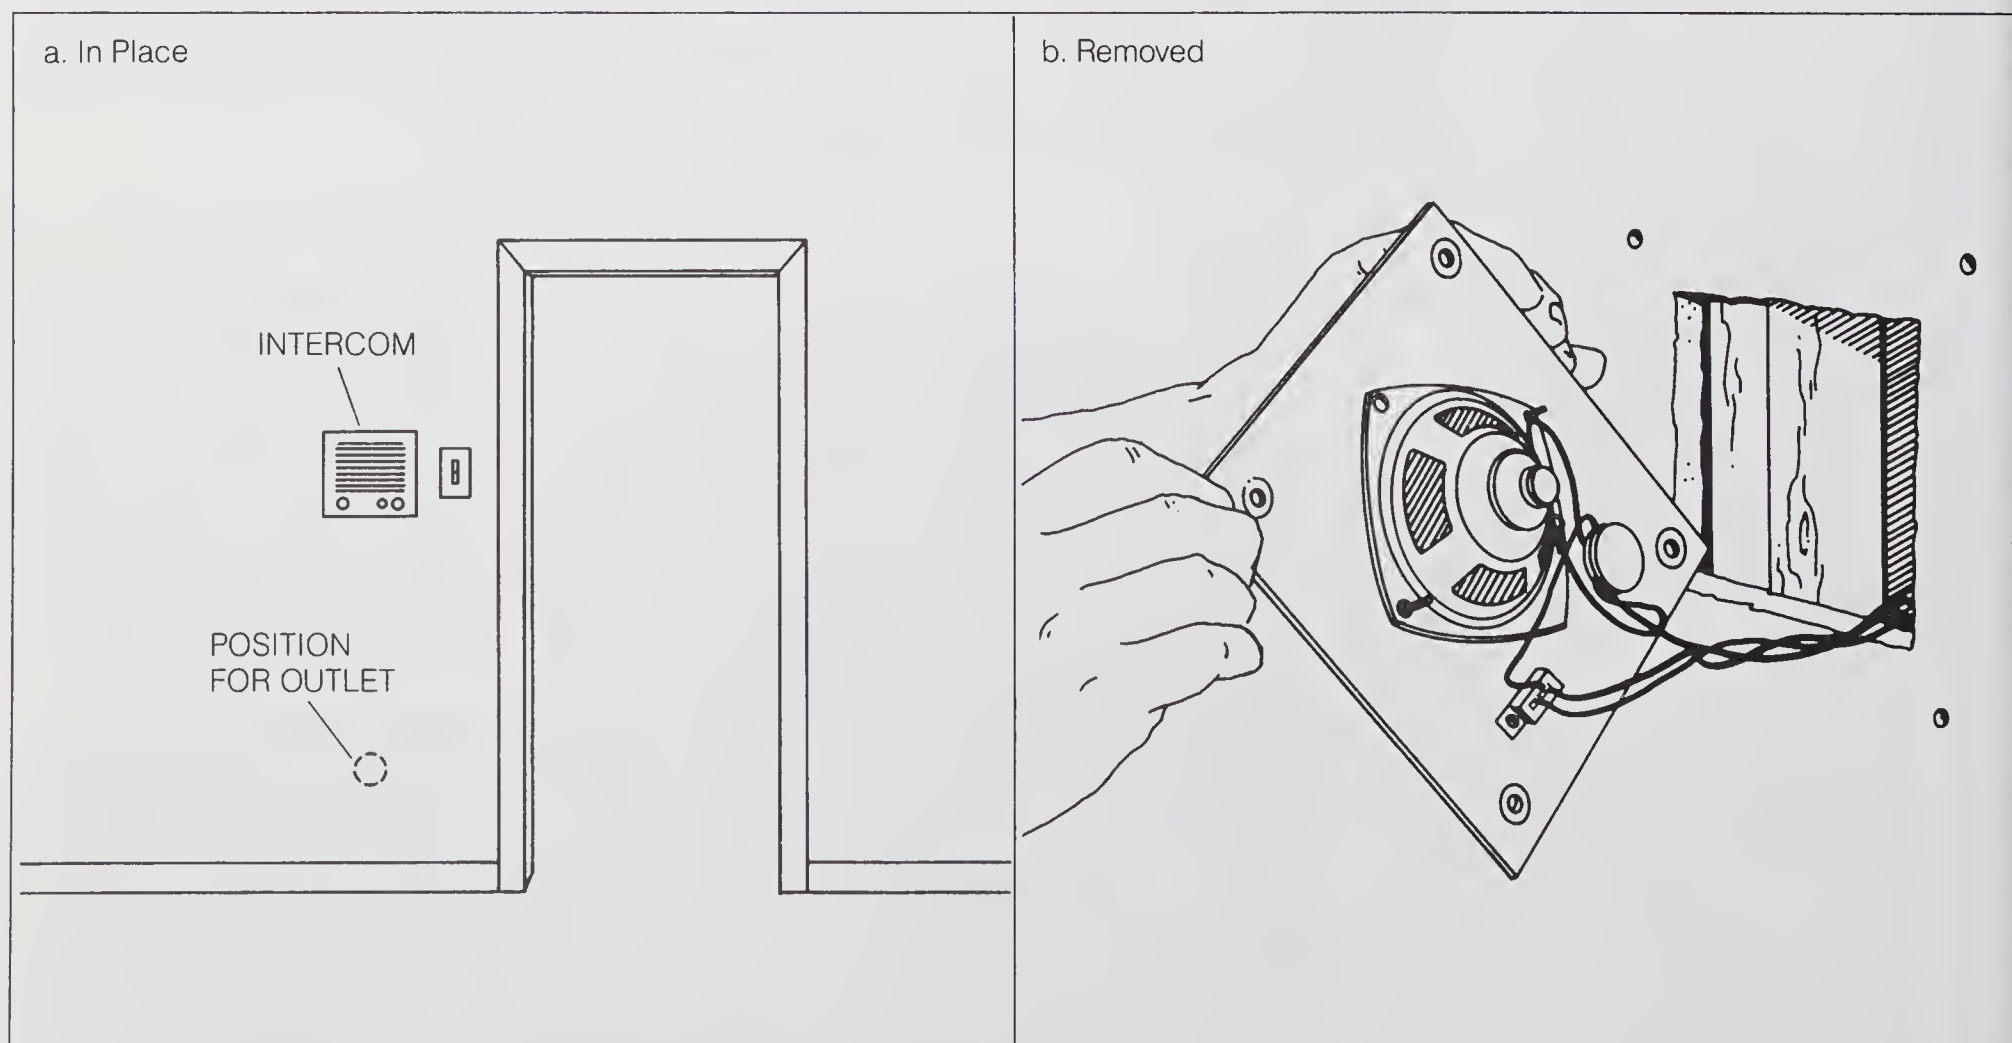

Figure 7-4.
6. Go into each bedroom and position the outlets 12" to 18" up from the floor in line with any electrical outlets to keep the room uniform. The round outlets are mounted directly to the wall so their position is away from wall studs not next to them. As shown in *Figure 7-4*, there are intercoms in the bedrooms. The holes in the walls cut for mounting the speakers are very useful for fishing the cables through the walls; therefore, a good position for the outlets is between the wall studs directly below the intercoms. Remove the intercom speakers in each bedroom as shown in *Figure 7-4b*.